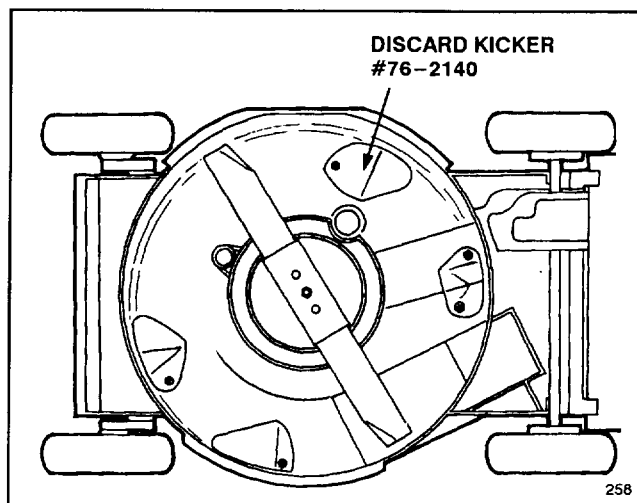

Figure 3
1. The Recycler® II mower technology requires three kickers, not four. Discard old kicker Part No. 76-2140 (Fig. 3).